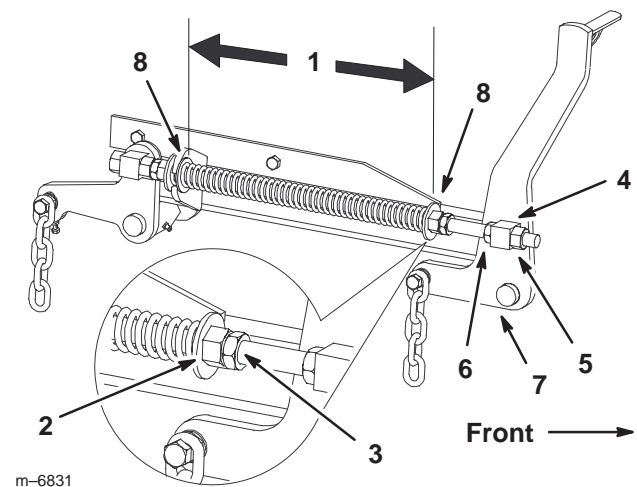

Figure 71
7. Loosen the front swivel jam nuts, at the front of the right and left swivels, approximately a 1/2 inch (13 mm) (Fig. 71).
8. Adjust the lift nuts on both the left and the right side of the machine to achieve **1/4 to 3/8 inch (6 to 10 mm) lower in front at A than in the rear at B** (Fig. 71).
2. Check the distance between the two large washers, it needs to be 10-1/2 inches (26.7 cm) (Fig. 71).
3. Adjust this distance, by loosening the spring jam nut and turning the nut in front of each spring (Fig. 71). Turning the nut clockwise will shorten the spring; counter-clockwise will lengthen the spring.
4. Lock the nut into position by tightening the spring jam nut (Fig. 71).